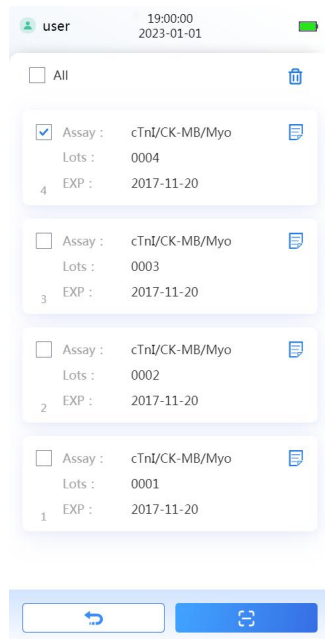

Figure 9 Assay List Interface
1. After clicking the main interface button , you will enter the assays interface (Figure 9 below).